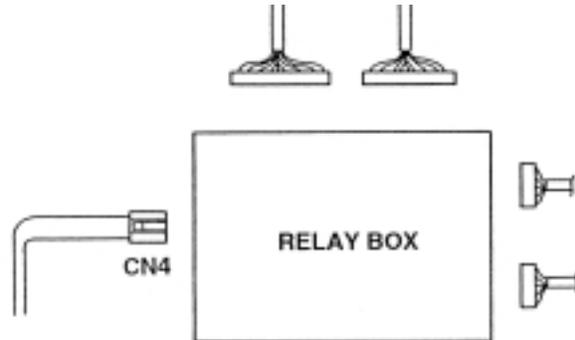

Figure 5-1. Main Power Test
2. Disconnect connector CN4 from the relay box. See figure 5-1. Leave all other connectors connected.